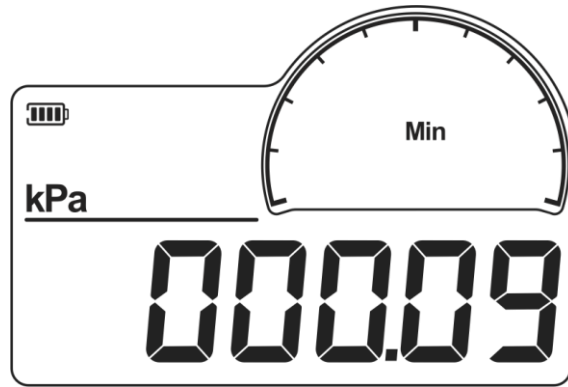

Figure 22 Lower limit calibration
2. Start lower limit calibration, as shown in Figure 22. The main display shows the measured pressure value, after the pressure stabilized, short press Enter button to confirm.